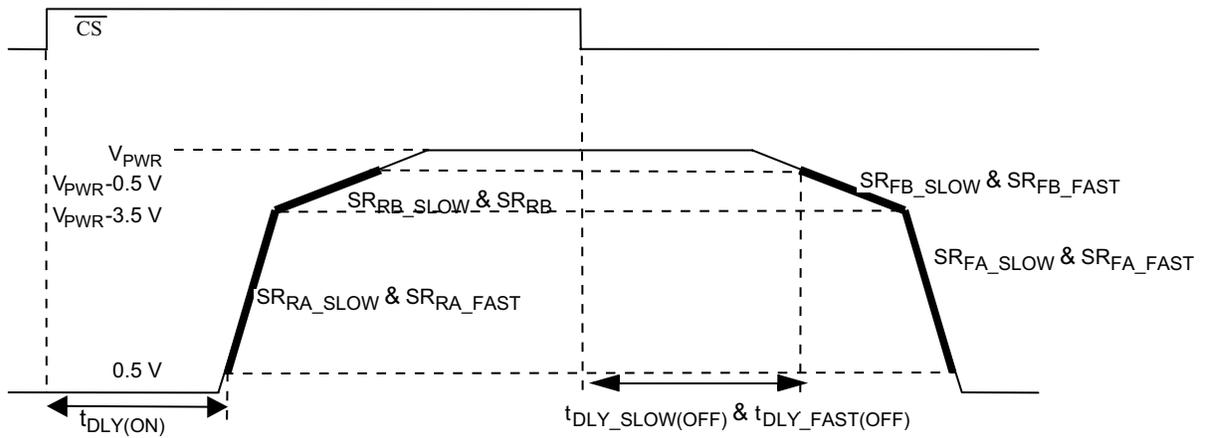

Figure 4. Output Slew Rate and Time Delays
19. Rise and Fall Slew Rates A measured across a 5.0 Ω resistive load at high-side output = 0.5 V to V_{PWR}-3.5 V (see Figure 4, page 12). These parameters are guaranteed by process monitoring.
20. Rise and Fall Slew Rates B measured across a 5.0 Ω resistive load at high-side output = 0.5 V to V_{PWR}-3.5 V (see Figure 4). These parameters are guaranteed by process monitoring.